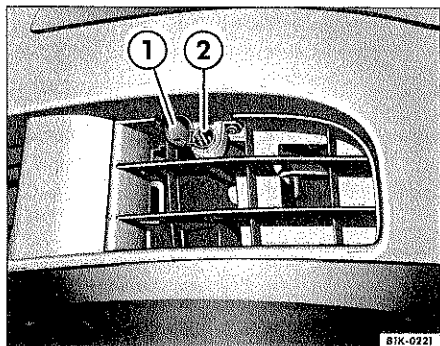

Fig. 48 In the left front of the bumper: engine preheater connector socket
- Open the cap ⇒ fig. 48 ①.
- Insert the connector cable in the socket ② ⇒ ⚠.